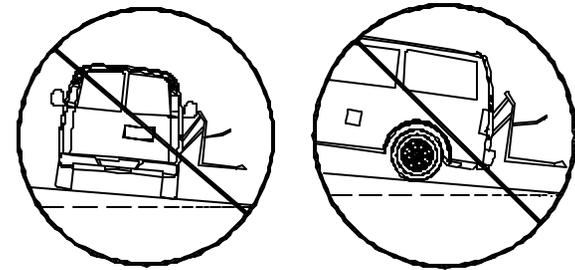

FIGURE 2-1: SLOPED PARKING HAZARD
- Refer to **Figure 2-1**. A hazardous situation may exist when using the lift if the vehicle is parked on any type of slope. Always operate the lift with the vehicle on level ground.